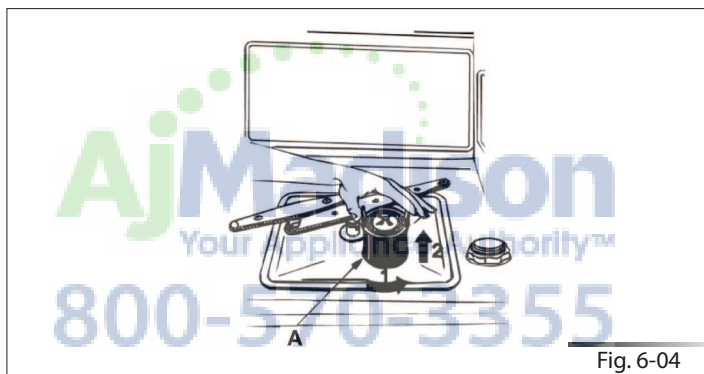

Fig. 6-04
- Periodically inspect the filter unit (ref. A fig. 6-04) and, if necessary, clean it under running water (at room temperature), using a stiff brush. To remove the filter, grip the tabs, turn anticlockwise and lift upwards;
- after cleaning, remount the filter unit, joining the two parts comprising the centre filter by pushing slightly until they click into place; insert the centre filter into the micro-filter (see fig. 6-05). Reposition the filter unit (ref. A fig. 6-04) into its seat, turning it clockwise until it locks.